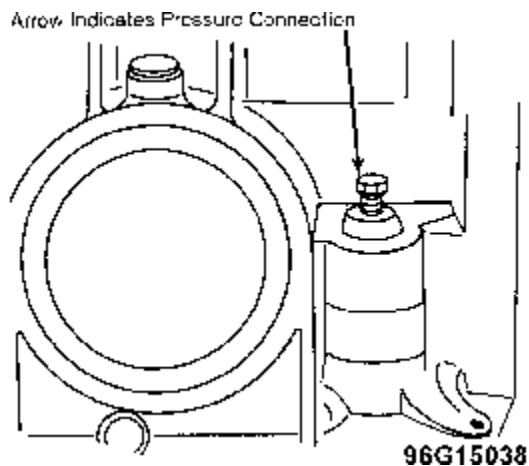

Fig. 1: Pressure Test Port Location
1) Connect pressure gauge to main pressure test point on case (adjacent to servo cover). Transmission must be at normal operating temperature. See Fig. 1.